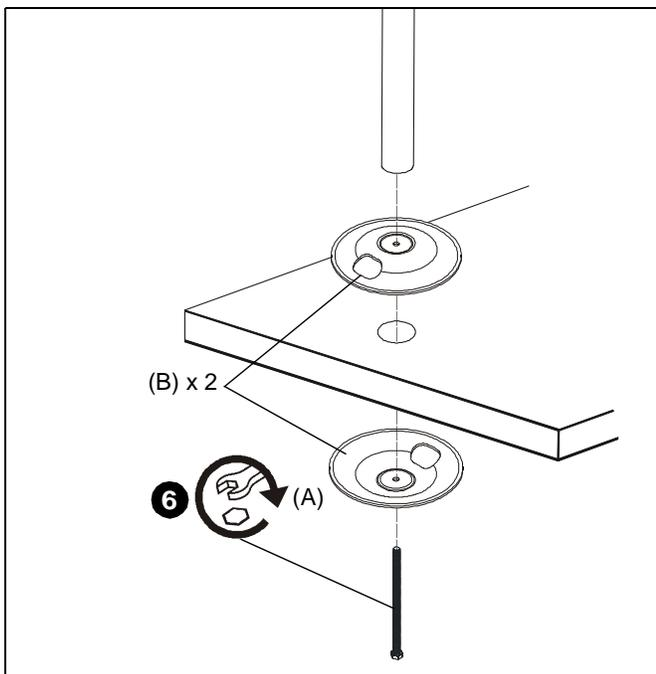

Figure 1
1. Align grommet mount base plates (B) with hole in surface. (See Figure 1)
1. Slide one 3/8-16 x 6" hex head cap screw (A) upward through lower grommet plate (B), through hole in surface and through upper grommet plate (B). (See Figure 1)
2. Place pole, provided with array accessory, onto upper grommet plate (B) aligning threaded hole in pole bottom with threaded end of 3/8-16 x 6" hex head cap screw (A). (See Figure 1)
3. Thread 3/8-16 x 6" hex head cap screw (A) into pole bottom and tighten with 9/16" wrench to secure pole and grommet plates (B) to surface. (See Figure 1)